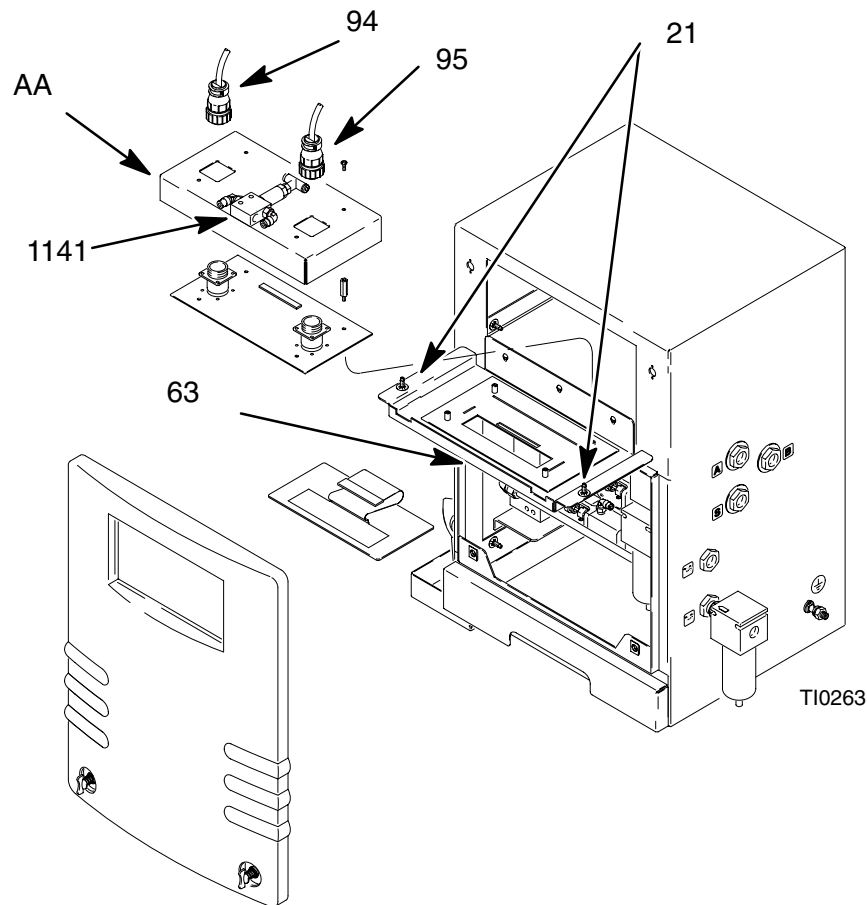

Fig. 3
4. Loosen the two screws (21) from the center panel (63) to allow the panel to drop forward (see fig. 3)
5. Remove the protective tape backing on the “B” valve air assembly (I.D. #1141) and install onto the circuit board cover (AA) between the wire harnesses (94, 95). The pilot line (red hoses) should be oriented towards the panel hinge.
9. Close the panel (63); be sure not to crimp or pinch the hoses and wires. Secure the panel with the screws (21).